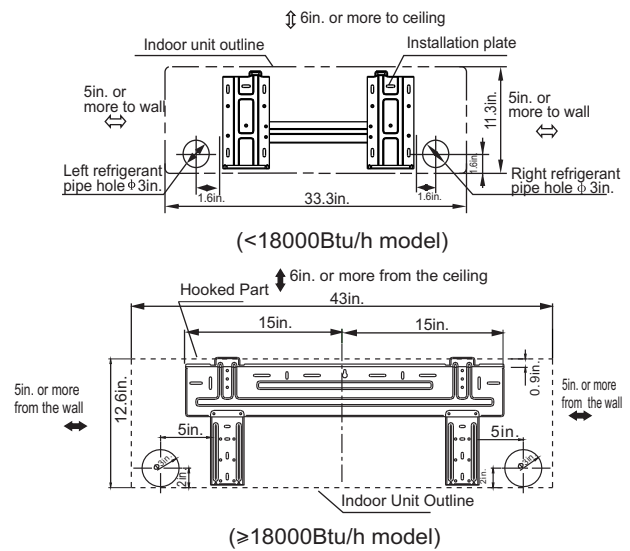

Fig.5
1. Determine hole positions according to the diagram detailed in Fig.5. Drill one (1) hole ( $\phi 3\text{in.}$ (65mm)) slanting slightly to outdoor side.